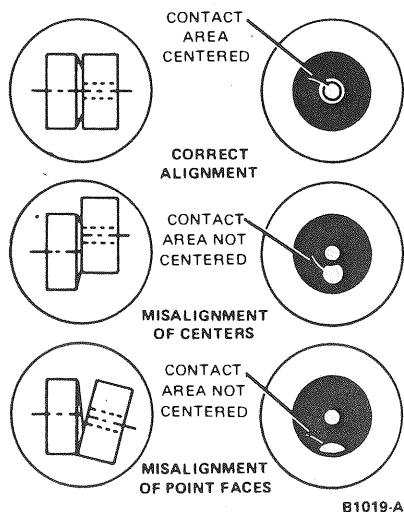

FIG. 9 Checking Breaker Point Alignment
1. Turn the cam so that the breaker points are closed, then check the alignment of the points (Figure 9).